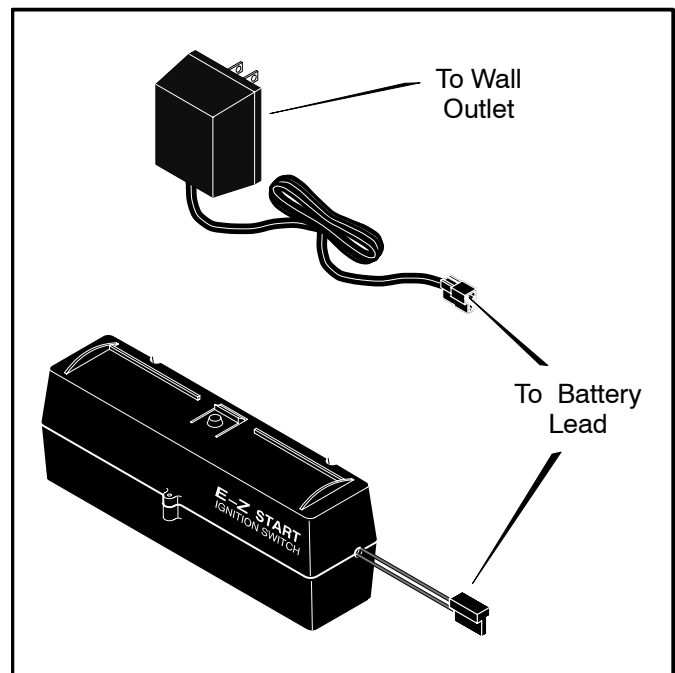

FIGURE 15: BATTERY CHARGING
3. Attach charger to battery. (Figure 15)